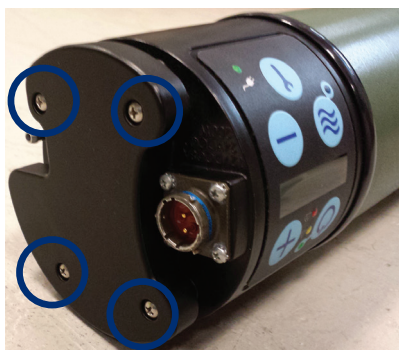

Figure 6-2. Remove Cover
- 6.7.2 Using a Phillips #1 screwdriver, loosen the four captive screws shown in figure 6-2.